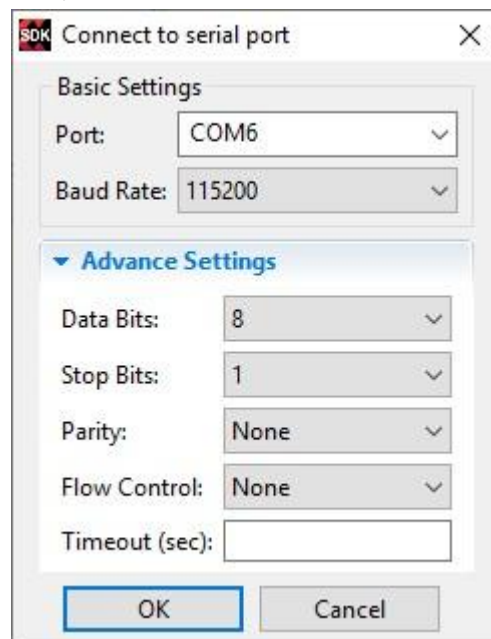

Figure 33: Setting up the serial port.
9. Use the settings in Figure 33 to set up the serial port. Check the Windows Device Manager on your workstation for the **USB Serial Port** to determine which COM port is connected to the ZedBoard. Once the settings are correct, click **OK**.